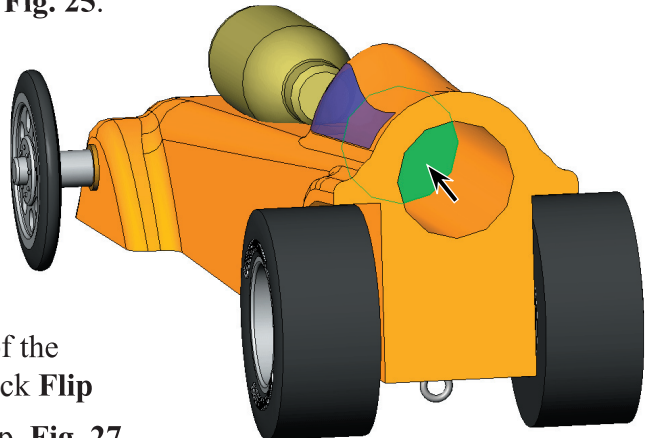

Fig. 25
Step 4. Click **bottom face of the cartridge hole**, Fig. 25.